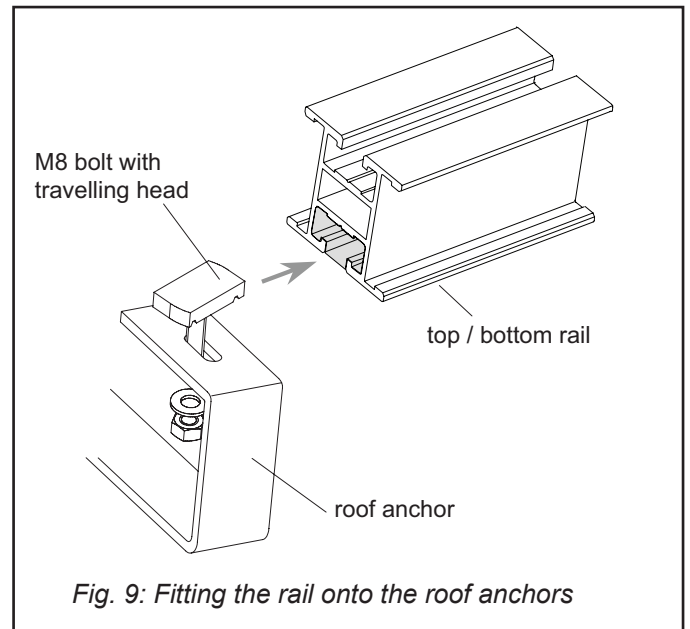

Fig. 9: Fitting the rail onto the roof anchors
- Then mount the U-shaped bracket (Fig. 9) on the bolt, between two nuts with a serrated washer.
- Align the travelling screw head (Fig. 9) with the horizontal rail and shift the rail onto it, or shift the screws into the rail first and fasten to the anchors. Use serrated lock washers to fit the nuts.